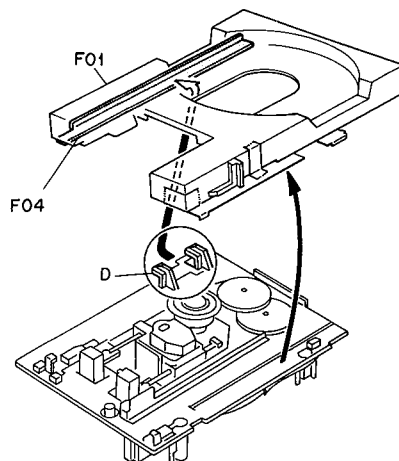

Fig. 2.10.2
- (6) Remove F01 (Disc Tray Ass'y) referring to Fig. 2.10.2. (F04 must come off the claws D.).